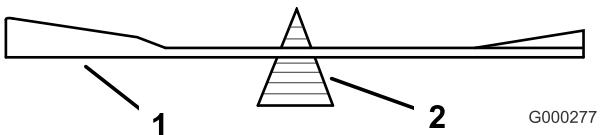
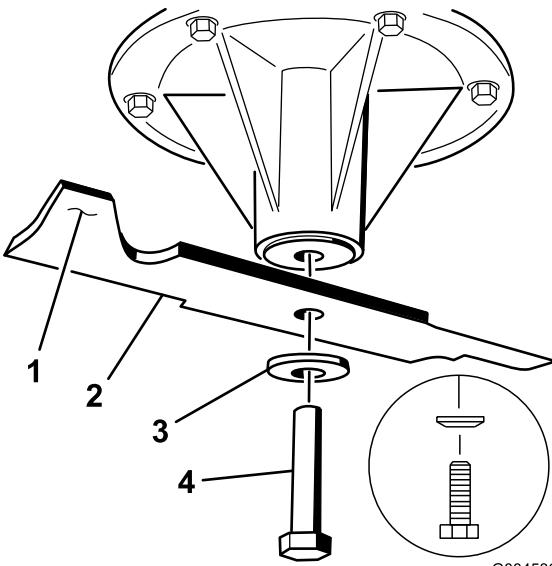

Figure 96
Figure 97
2. Check the balance of the blade by putting it on a blade balancer (Figure 96). If the blade stays in a horizontal position, the blade is balanced and can be used. If the blade is not balanced, file some metal off the end of the sail area only (Figure 97). Repeat this procedure until the blade is balanced.
1. Install the blade onto the spindle shaft (Figure 97).
2. Install the spring disk and blade bolt. The spring disk cone must be installed toward the bolt head (Figure 97). Torque the blade bolt to 85-110 ft-lb (115-150 N·m).